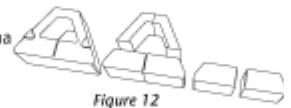

Figure 12
- With a splitter or chisel, split the preformed "split line" on the remaining ingot to produce two "stub" corners. See Figure 12.